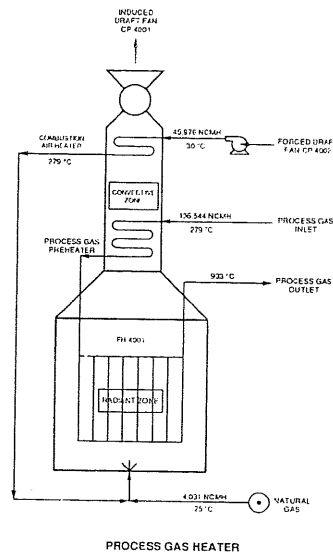

Figure 2: Process Heater
- e) An operator is going to start up the process heater diagram as shown in Figure 2 below. Explain the procedure to start up the process heater safely.